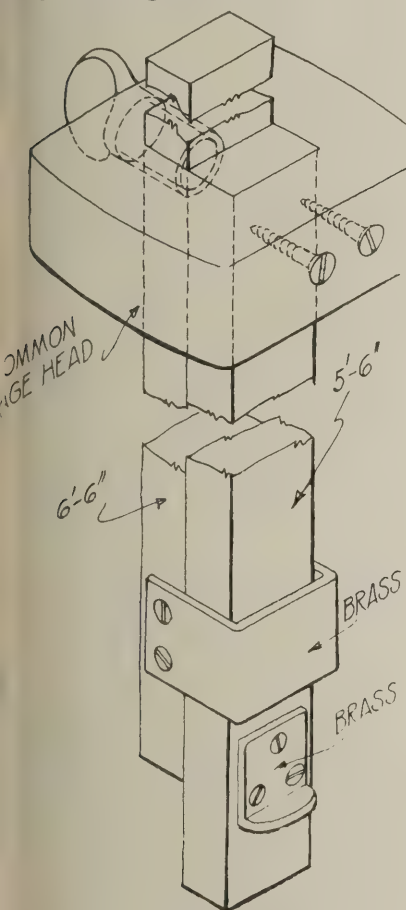

Fig. 1—Slide rod
S. F. B., New London, Ohio, sends the sketch of a slide rod (Fig. 1) which, he says, is "one of the handiest tools I use. It is used for any length from 6 to 12 ft. in setting base lengths. It can be set very